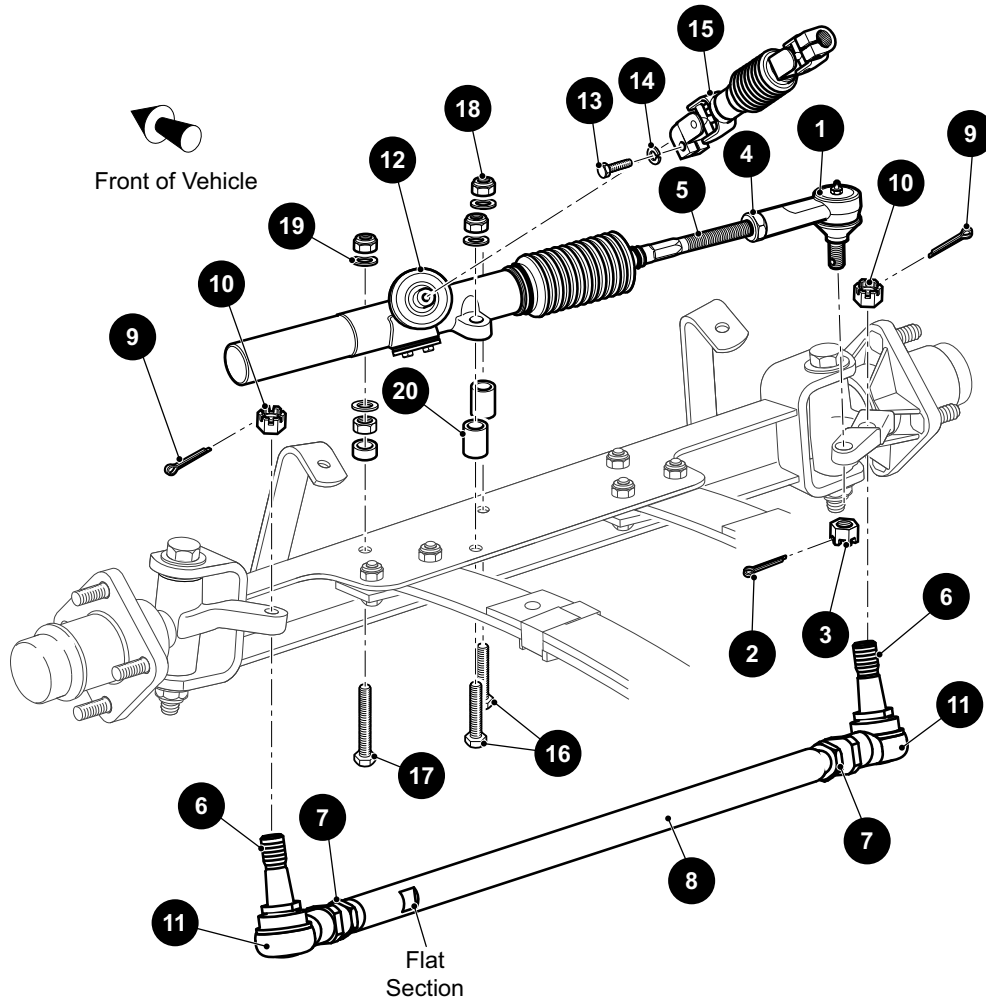

Fig. 11 Steering Components
1. To remove rack ball joint (1), loosen passenger side front wheel and lift and support front of vehicle per SAFETY section (Ref. Fig. 11).
3. Remove the cotter pin (2) and loosen the castellated nut (3) until rack ball joint (1) threads are protected. Using a ball joint separator as a lever, apply pressure to ball joint and tap nut with plastic faced hammer to release ball joint from passenger side spindle arm. Remove nut from ball joint and ball joint from spindle arm.
1. Grasp the tie rod (8) at ball joints (6) and check for any vertical motion which would indicate a worn condition and require replacement (Ref. Fig. 11).